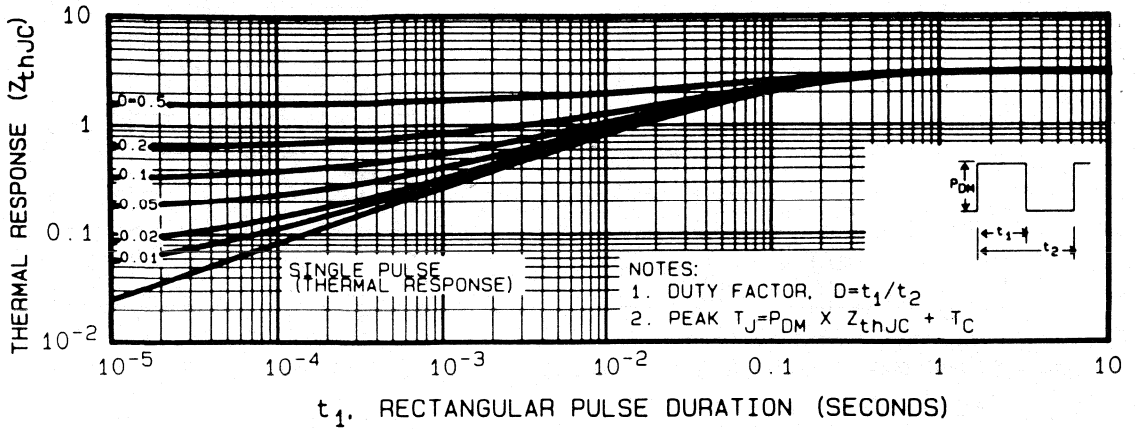

Fig. 5 — Maximum Effective Transient Thermal Impedance, Junction-to-Case Vs. Pulse Duration
3. Repetitive Rating: Pulse width limited by max. junction temperature. See Transient Thermal Impedance Curve (Figure 5)